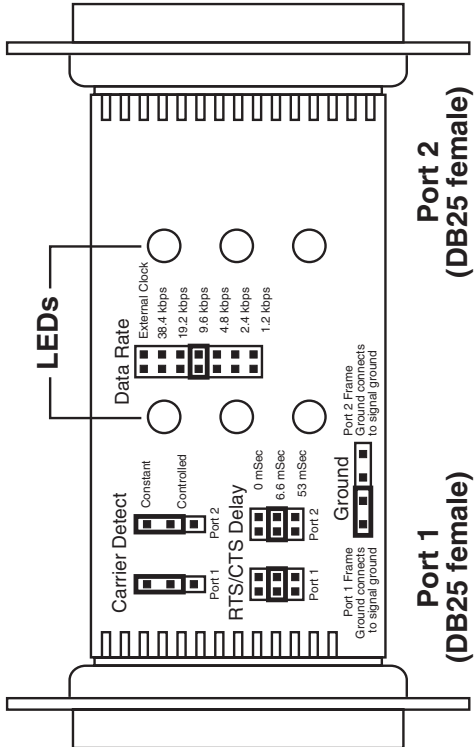
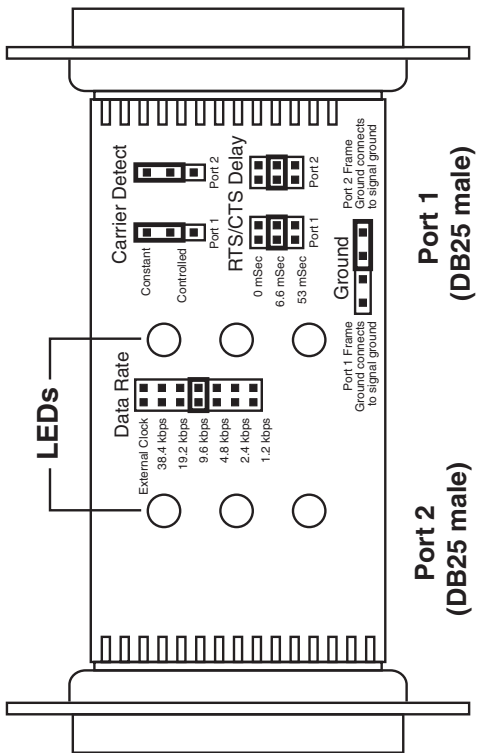

Figure 3-1. Jumper locations on the ME240A-F's circuit board.
Figure 3-2. Jumper locations on the ME240A-M's circuit board.
3. Lift, remove, and reposition the individual jumpers on the unit's circuit board as necessary; refer to Table 3-1 on the next page and either Figure 3-1 on page 13 (for the ME240A-F) or Figure 3-2 on page 14 (for the ME240A-M). If you find the jumpers too difficult to handle with your fingers, use needle-nosed pliers or a pair of tweezers.